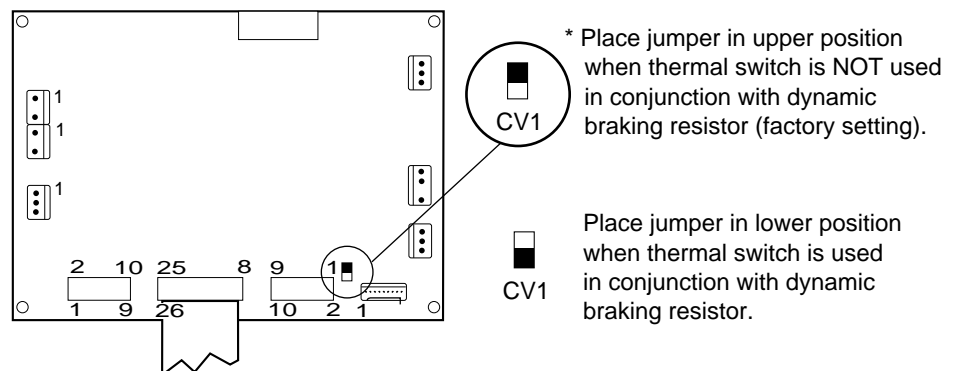

Figure 5-10 Measurement Board
9. If a thermal switch is used, connect it to PY-PZ terminals of the DB board and set jumper CV1 on the measurement board as shown in Figure 5-10.